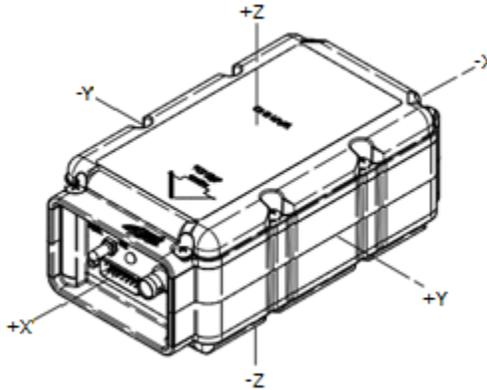

Figure 26 ELT Orthogonal Axes
- 1) ACR Electronics recommends installation of the ME406HM ELT in helicopters. The ME406HM ELT is equipped with a 5-axis G-switch module in addition to the usual primary G-switch, which is oriented to the direction of flight. See Figure 26 ELT Orthogonal Axes.